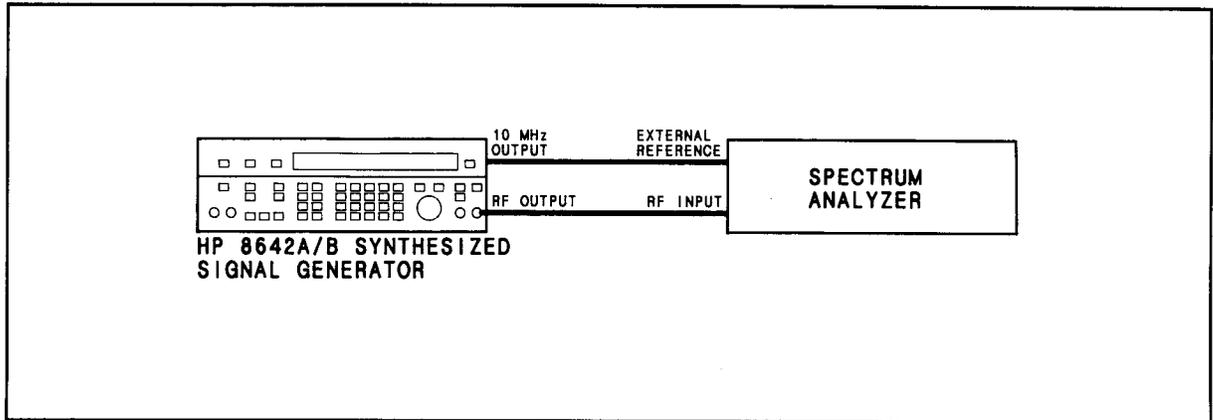

Figure 4-9. Harmonics and Spurious Test Setup
2. Connect the instruments as shown in Figure 4-9.